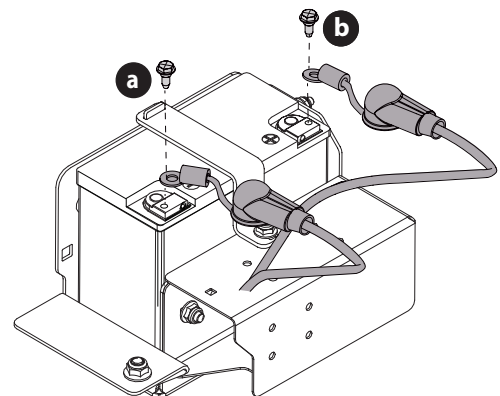

Figure 36
2. Remove the vertical mount bolt securing the black negative battery lead (a) to the negative battery post (marked NEG (-)). Move the cable away from the negative battery post (Figure 36).
3. Remove the vertical mount bolt securing the red positive battery lead (b) to the positive battery post (marked POS (+)). Move the cable away from the positive battery post (Figure 36).